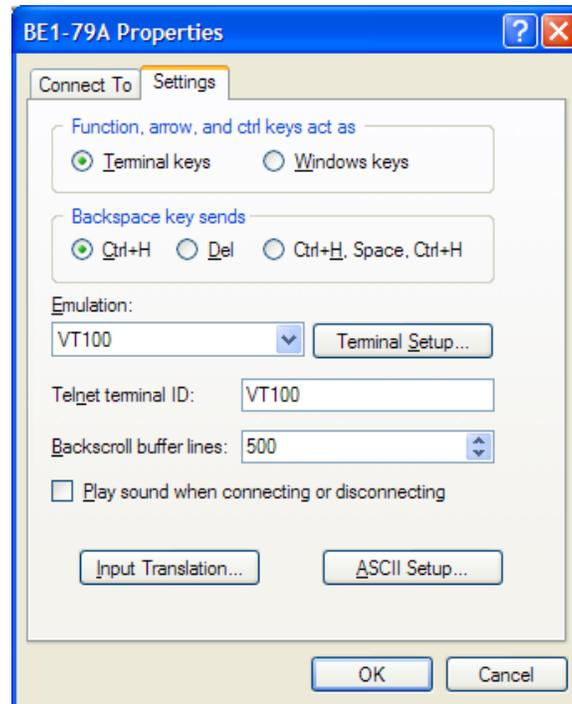

Figure B-4. Properties, Settings Tab
- a. Make the following selections using Figure B-4 as a guide: